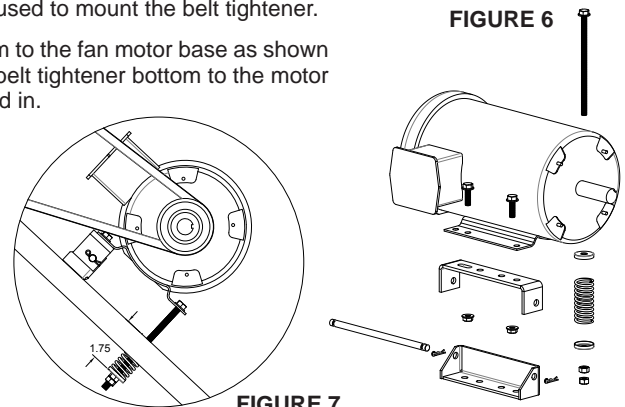

FIGURE 7
3. Mount the belt tightener top to the motor and the belt tightener bottom to the fan motor base as shown in Figure 6 and Figure 7 using the motor mounting bolts. Mount the belt tightener bottom to the motor base in the same slots in the motor base that the motor was mounted in.
5. Install the long bolt and spring as shown in Figure 6 and Figure 7 in the front hole of the motor. Tighten the spring to a length of 1.75 inches as shown in Figure 7.
SPECIAL NOTE: *Attach the fan to the inside of the wall opening using lag bolts provided by others. Also place lag bolts thru the wall attachment brackets into the wall to secure the frame assembly to the wall for additional stability. See Figure 7.*